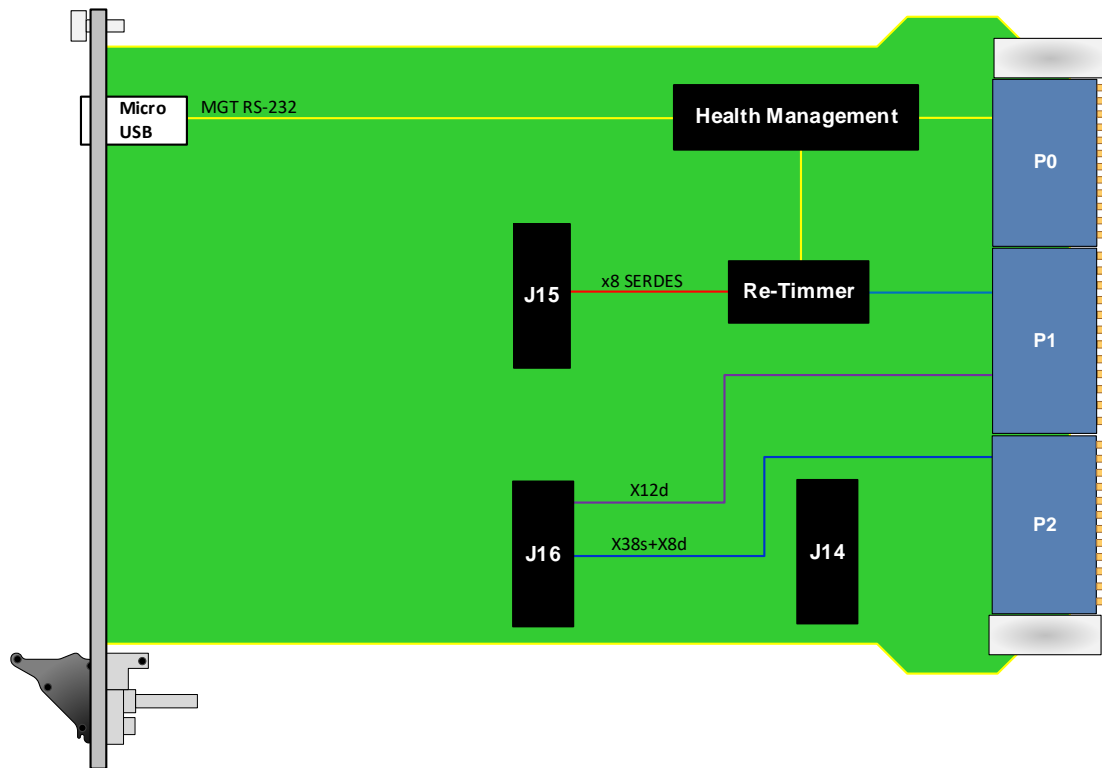

Figure 7: VPX102 Functional Block Diagram, Option D=5
- P1w13-X38s+X8d+X12d (Figure 7)